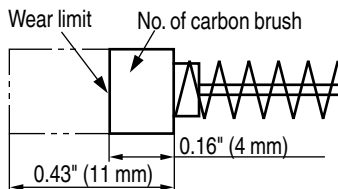

Fig. 40
4. Inspecting the carbon brushes (Fig. 40)